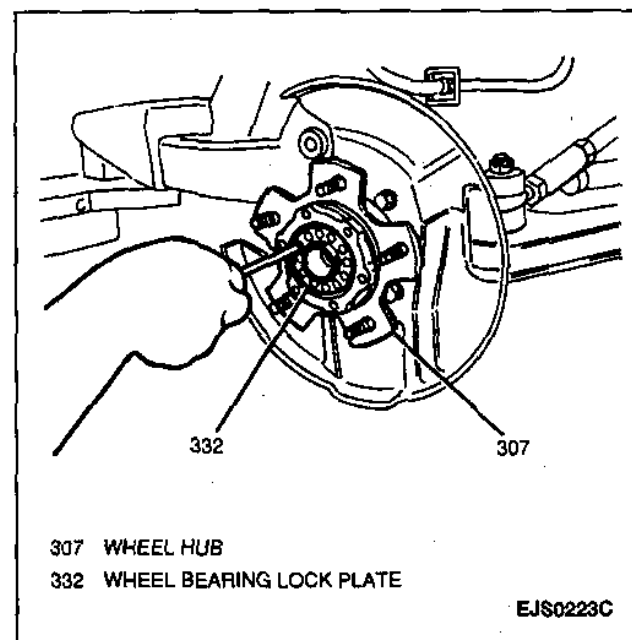

Figure 22—Removing Wheel Bearing Lock Plate
6. Wheel bearing lock plate by removing four screws (Figure 22).